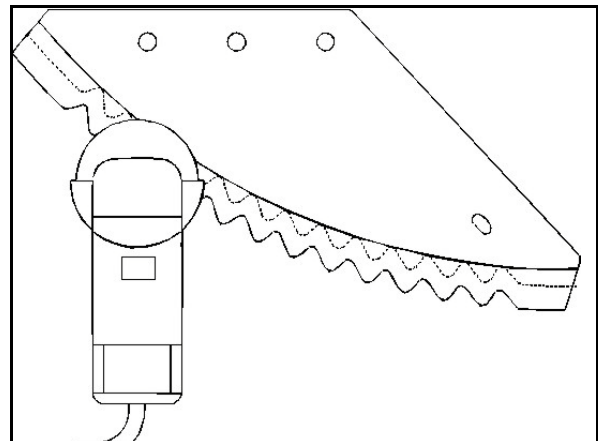

Fig. 98
- Use a right-angle grinder with a flap grinding wheel (Fig. 98) when grinding the cutting knives.